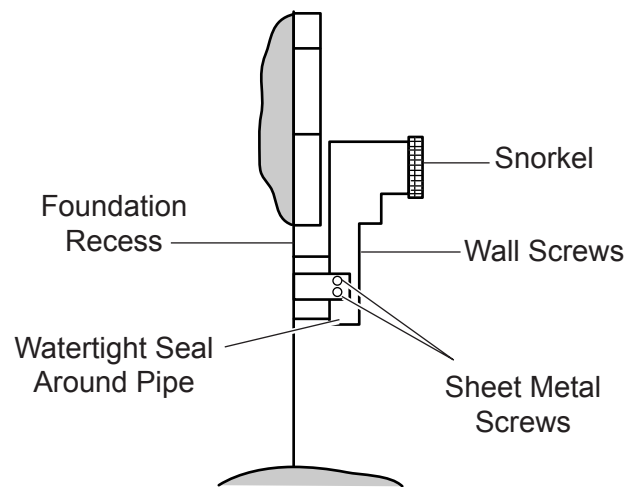

Figure 32 - Snorkel Installation, Recessed Foundation
If the foundation is recessed, use recess brackets (not supplied) for securing lower portion of the snorkel. Fasten brackets to wall first, then secure to snorkel with self drilling #8x¹/₂ sheet metal screws. It will be necessary to extend vent pipes out as far as the protruding wall face. *See Figure 32.*
NOTE: If an offset is needed to avoid obstructions, you must support the vent pipe every three (3) feet. Use wall straps for this purpose. See Figure 32, page 24. Whenever possible, use 45° elbows instead of 90° elbows. The 45° elbow offers less restriction to the flow of the flue gases and intake air.